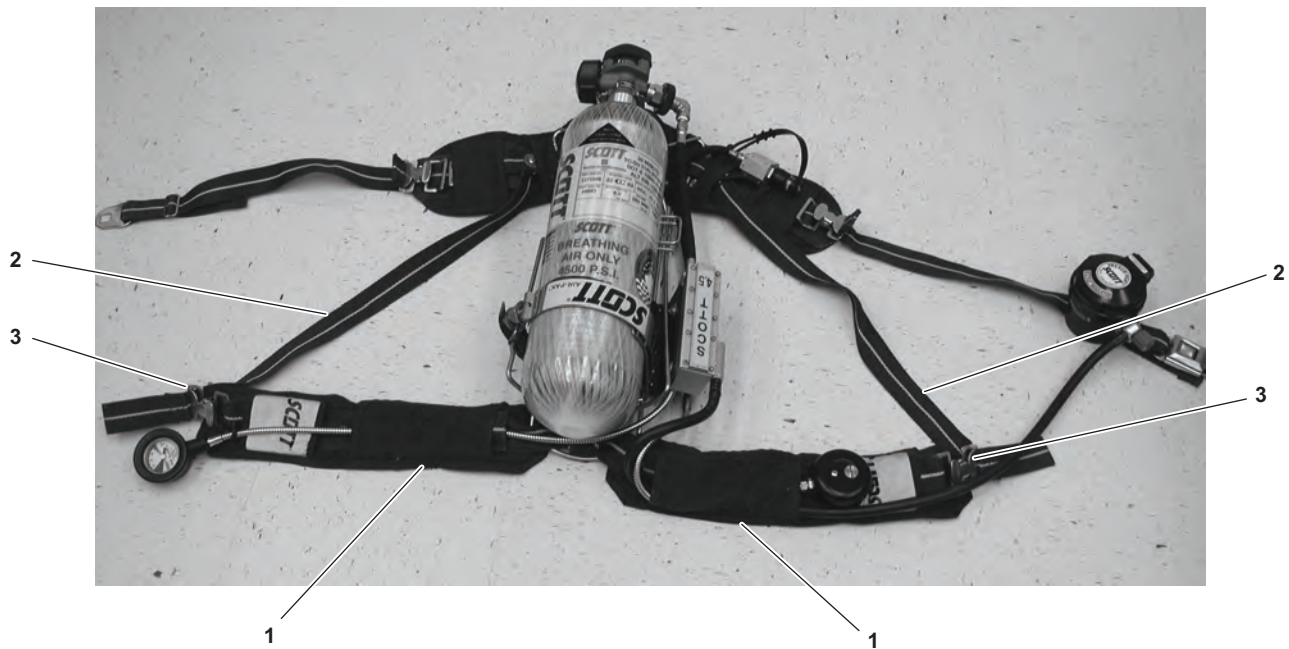

Figure 6-46. Remove Shoulder Pad Assembly
- (2) Remove the mask-mounted regulator IAW paragraph 6.7.2 step b.
- (3) Remove the remote pressure indicator IAW paragraph 6.8.2 step b.
- (4) Unsnap the shoulder strap from shoulder pad assemblies (figure 6-46, item 1).
- (5) Remove the side straps (figure 6-46, item 2) from shoulder strap spring-action buckles (figure 6-46, item 3).
- (6) Remove shoulder pad assembly (figure 6-46, item 1).
- (1) Inspect the shoulder pad assembly (figure 6-46, item 1) for any visible sign of damage. Replace as required.
- (2) Position the shoulder pad assembly (figure 6-46, item 1) with the label facing up.
- (3) Feed the shoulder strap spring-action buckle (figure 6-46, item 3) through the shoulder pad assembly (figure 6-46, item 1).
- (4) Snap the shoulder strap to the shoulder pad assembly (figure 6-46, item 1).
- (5) Feed the side strap (figure 6-46, item 2) through the shoulder strap spring-action buckle (figure 6-46, item 3). The folded seam will face the teeth of the buckle.